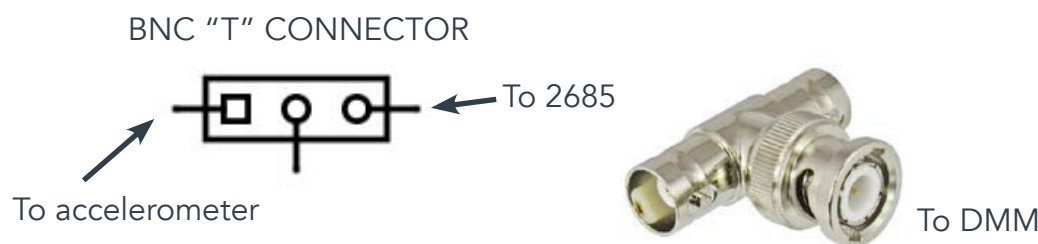

Figure 12: A "T" connector can be used between two BNC to 10-32 cables allowing for the measurement of the bias voltage at the male center of the connector.
11. With the power applied (28 VDC), measure the transducer's bias voltage as shown in figure 12. It should read approximately the same as the bias voltage recorded on the calibration certificate. Note that the ambient temperature affects the transducer's bias voltage level. The calibration temperature is recorded on the certificate.